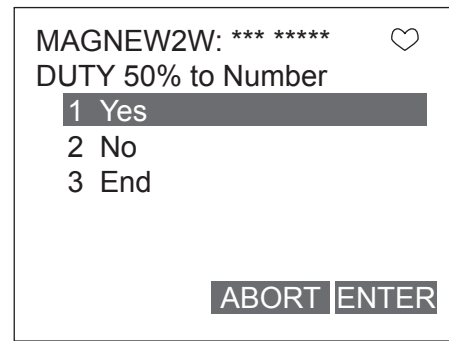

Fig. 7-29.
2. Once the display as shown Fig. 7-29. appears, move the arrow key up or down to select an Electrode status output mode. After marking a selection, press F4 (ENTER). OFF, ZERO, or HOLD can be selected. If F3 (ESC) is pressed here, the selection is canceled and the display returns to the Noise immunity menu.